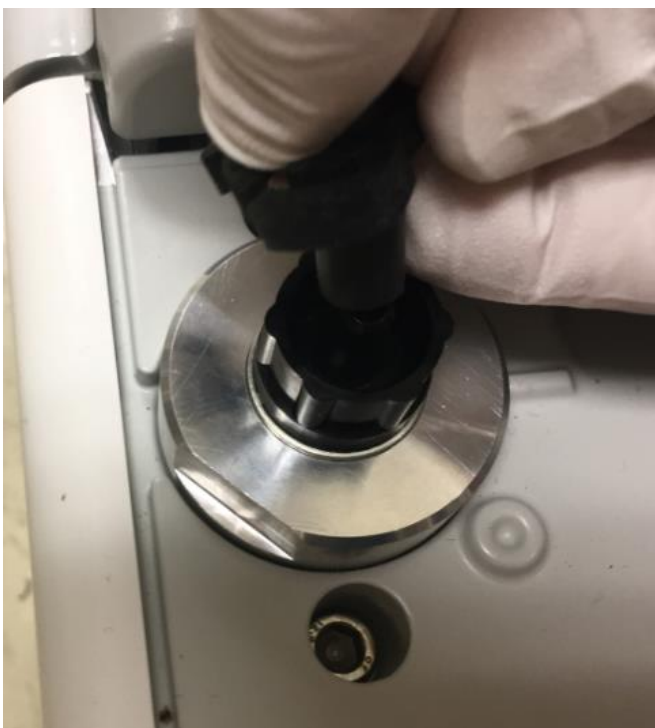

Figure 18: Attaching the oil mist filter hose to the adapter
- 11) Attach the hose from the oil mist filter to the adapter using the included clamp. Push the hose all the way down on the adapter. This will push the restrictor bushing up into the hose. See Figure 18.